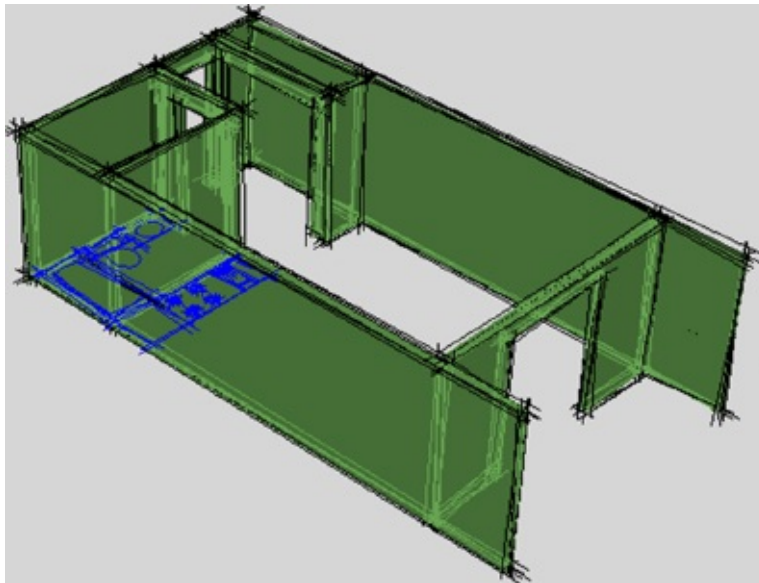

FIGURE 20.43 The 3D unit plan with the Sketch visual style
4. Click the Jitter Edges tool in the Edge Modifiers title bar. The edges take on a sketched look, as shown in Figure 20.43.